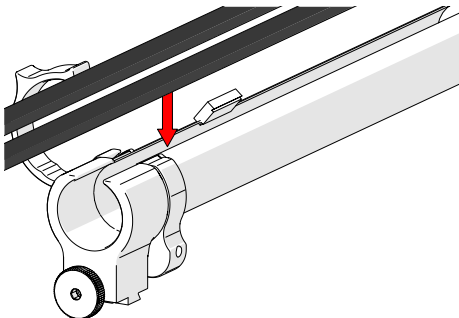

Fig. 54 - Insert cables and hoses
1. Open the cable management. Begin at the clamp end and start placing the cabling in the tube (Fig. 54).